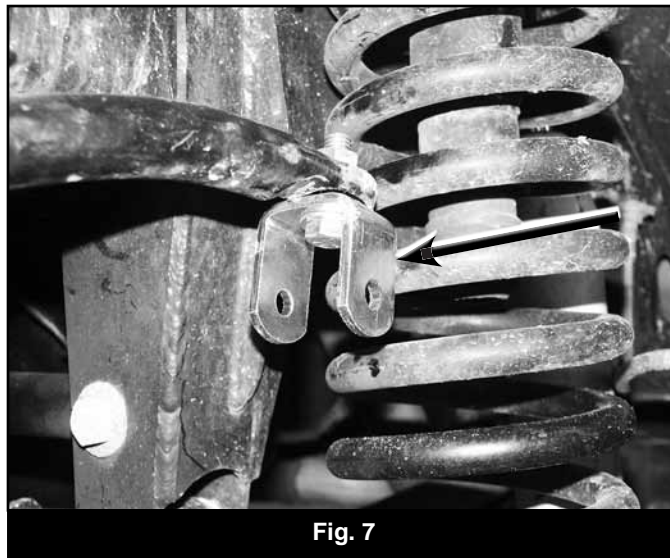

Fig. 7
23. Install the provided upper u-bracket (01325) to the sway bar using with a 7/16" x 1-1/2" bolt, nut, 7/16" SAE washer and 7/16" USS washer (BP 718). Install the bolt up through the u-bracket with an SAE washer into the sway bar. Fasten with the nut and USS washer (Fig 7). Position the bracket so that the thru-holes are parallel to the ball stud on the axle. Torque 7/16" hardware to 45 ft-lbs.